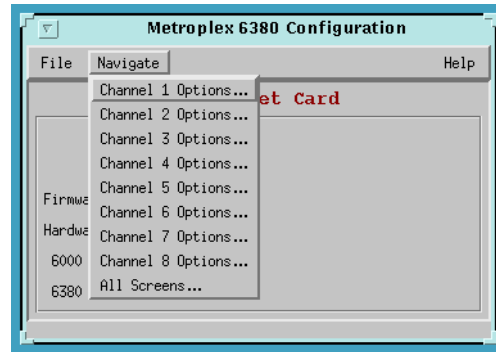

Figure 9-3 FXS Octet Configuration, Main Navigation Screen (MP6380)
- Click on the **Navigate** button to display a list of eight MP6380 option windows and an option window for **All Screens . . .**. Then, choose an option window for making changes to a specific channel by clicking it with the mouse (Figure 9-3).